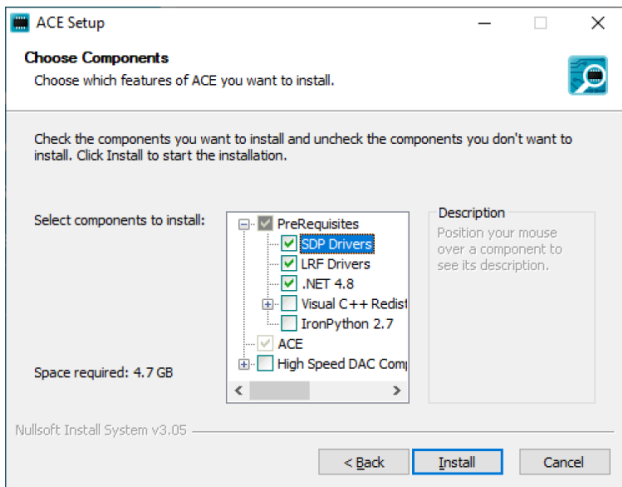

Figure 5. Drivers That Must Be Installed with the ACE Software
3. Install the latest version of the ACE software by following the instructions on the ACE software page. During installation, ensure that the **SDP Drivers**, **LRF Drivers**, and **.NET 4.8 Drivers** boxes are checked of under the **Select components to install: window** as well (see Figure 5).